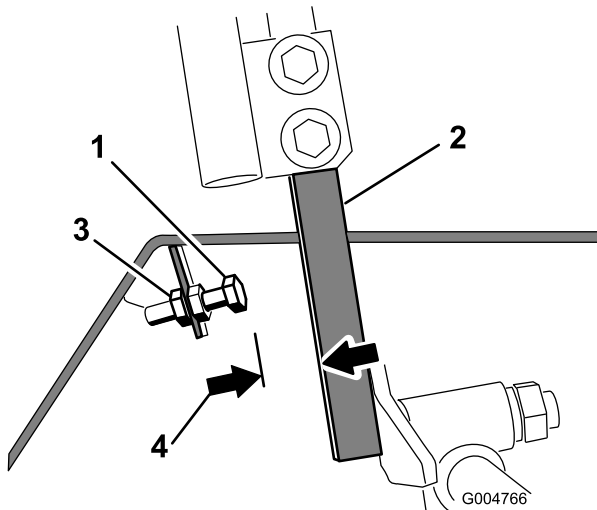

Figure 58
4. Loosen the jam nut on the stop bolt for a control lever (Figure 58).